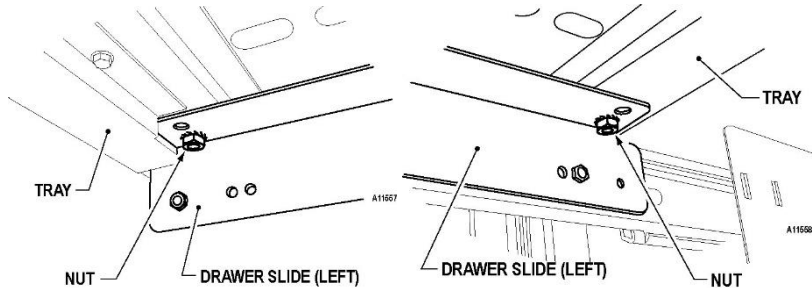

Fig 14
4. Remove/retain the four (4) nuts on the underside of the tray in the 4 corners - Fig 14